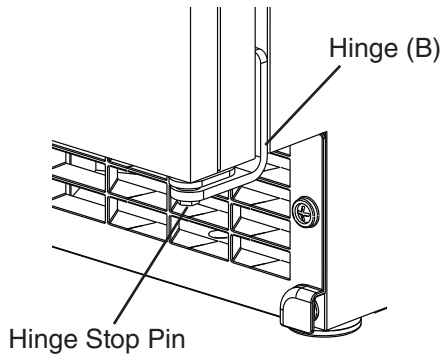

**Fig. 26**
- 7) Tighten the four M4×25 pan head screws installed in step 5. See Fig. 26.